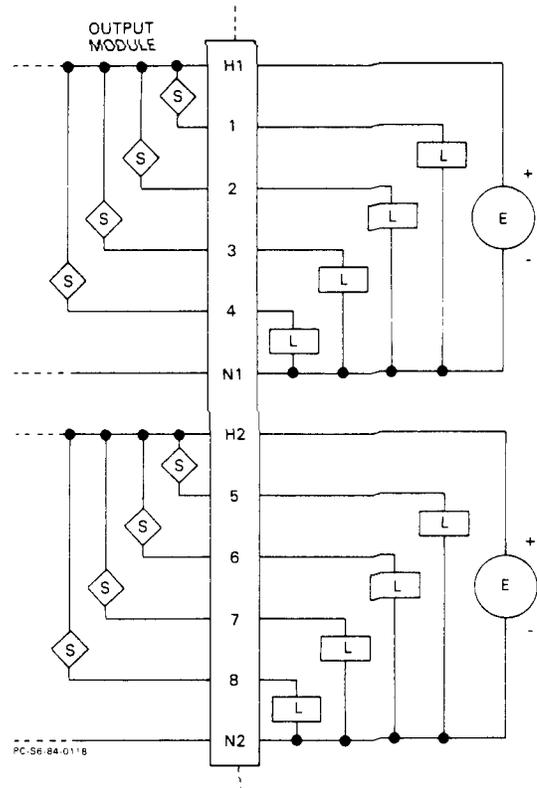

FIGURE 3. TYPICAL USER OUTPUT CONNECTIONS
4. Refer to Figure 3. Connect one side of the user circuit to the appropriate input terminal (1 through 8). Circuits connected to inputs 1 through 4 must have their opposite sides connected to either of the N1 terminals. Likewise, circuit connected to inputs 5 through 8 must have their opposite sides connected to either of the N2 terminals.
In reference to Figure 3, note that wires connected to the N1 terminals are at the same potential, as are wires connected to the N2 terminals.